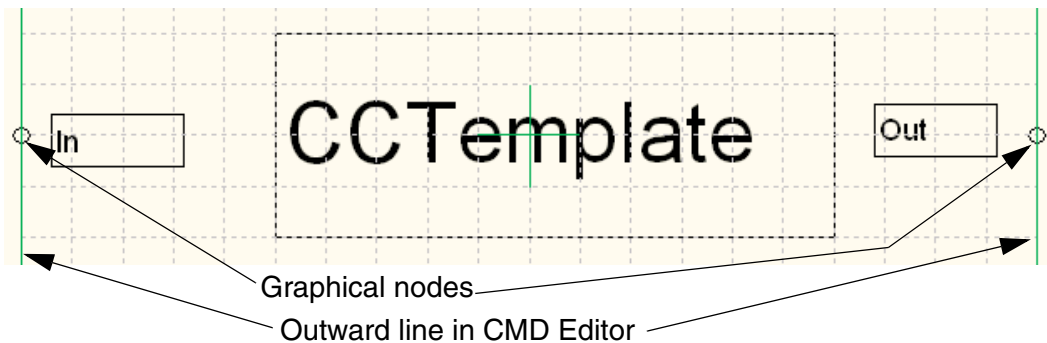
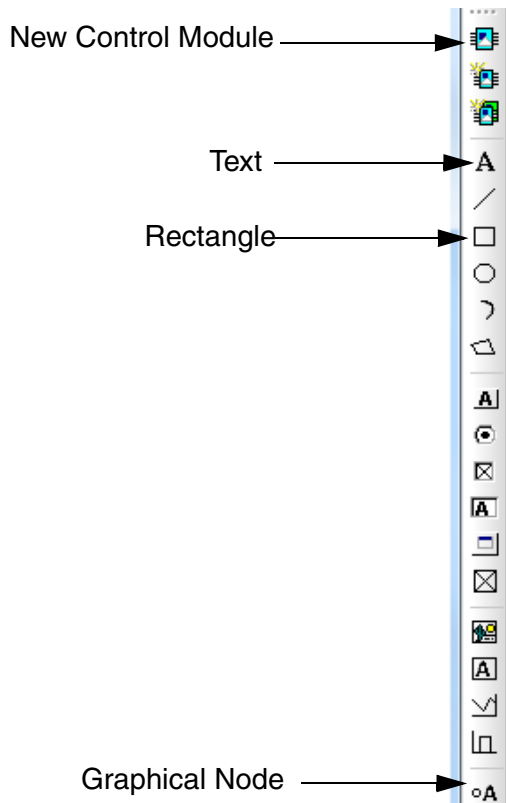

Figure 58. CCTemplate in the CMD Editor
Figure 59. Icon menu in the CMD Editor
After you are done with this subsection your CC Template will contain a name area, two connected graphical nodes in the CMD Editor (Figure 58).
2. Select icon for Rectangle (Figure 59) and mouse-click a rectangle over the outward line (see the outward line in Figure 58).
3. Select icon for Text (Figure 59) and write CCTemplate (Figure 58).
4. Select icon for Graphical Node (Figure 59) and add two nodes on both sides of your Text area (see exact location in Figure 58). Type in parameter **In** and **Out** in the rectangle.
5. Close the CMD Editor when done. The CMD Editor should look like Figure 58.
3. Open the CMD Editor in the Application and select the icon for New Control Module (see Figure 59).